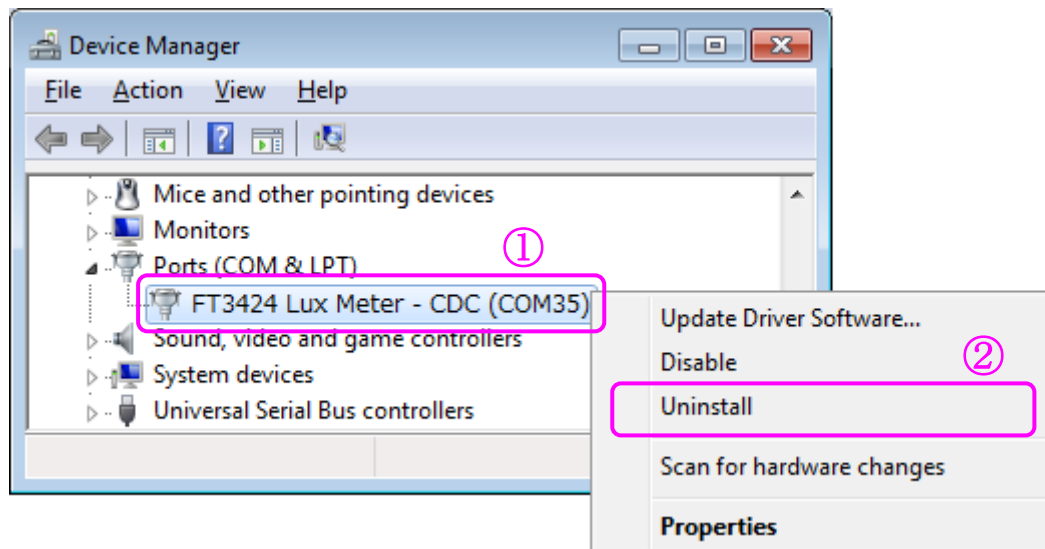

Fig.2-11
Step1: After opening device manager, Right click [FT3424 Lux Meter - CDC], and click [Uninstall]. (Fig.2-11)